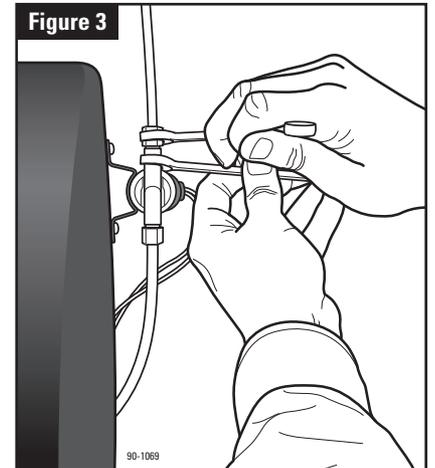

Figure 3
10. Connect tubing from the saddle valve to the inlet side of the solenoid valve using 1/4" O.D. copper tubing (not furnished). **DOUBLE WRENCH TO PREVENT LEAKING! (See Figure 3)**